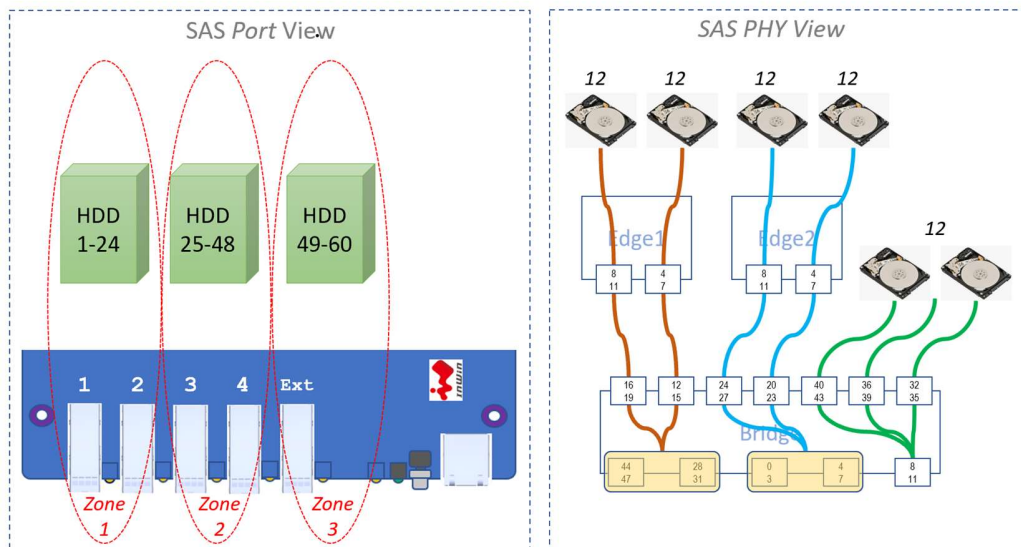
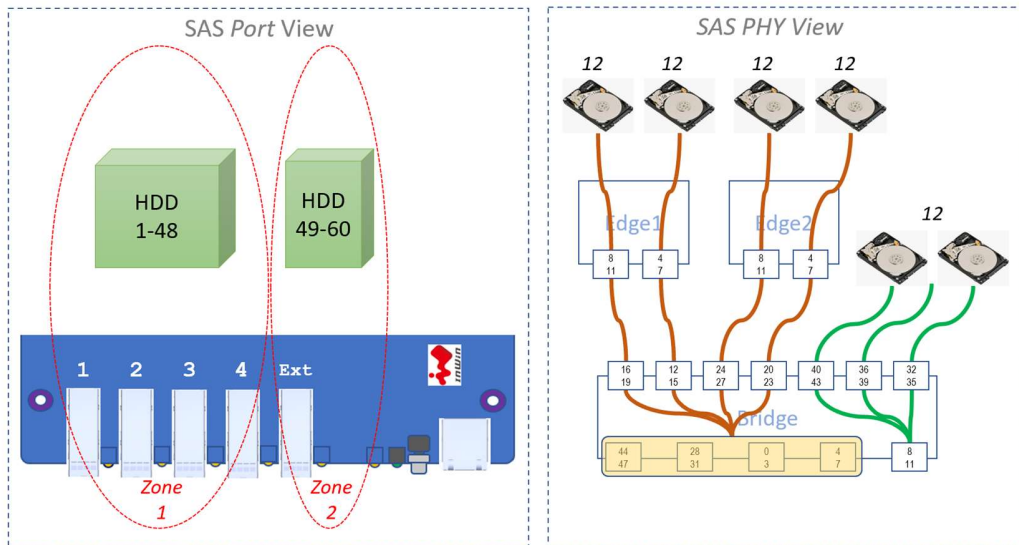

FIGURE 15 3 ZONES CONFIGURATION
FIGURE 16 2 ZONES CONFIGURATION
Set PHY zone mode. There are 2 zone enabling mode (1 or 2). Default (0) is zone disabled. Refer to Figure 15 for mode=1 (3 zones – zone1 is bay1-24, zone2 is bay25-48, zone3 is bay49-60), Figure 16 for mode=2 (2 zones – zone1 is bay1-48, zone2 is bay49-60)